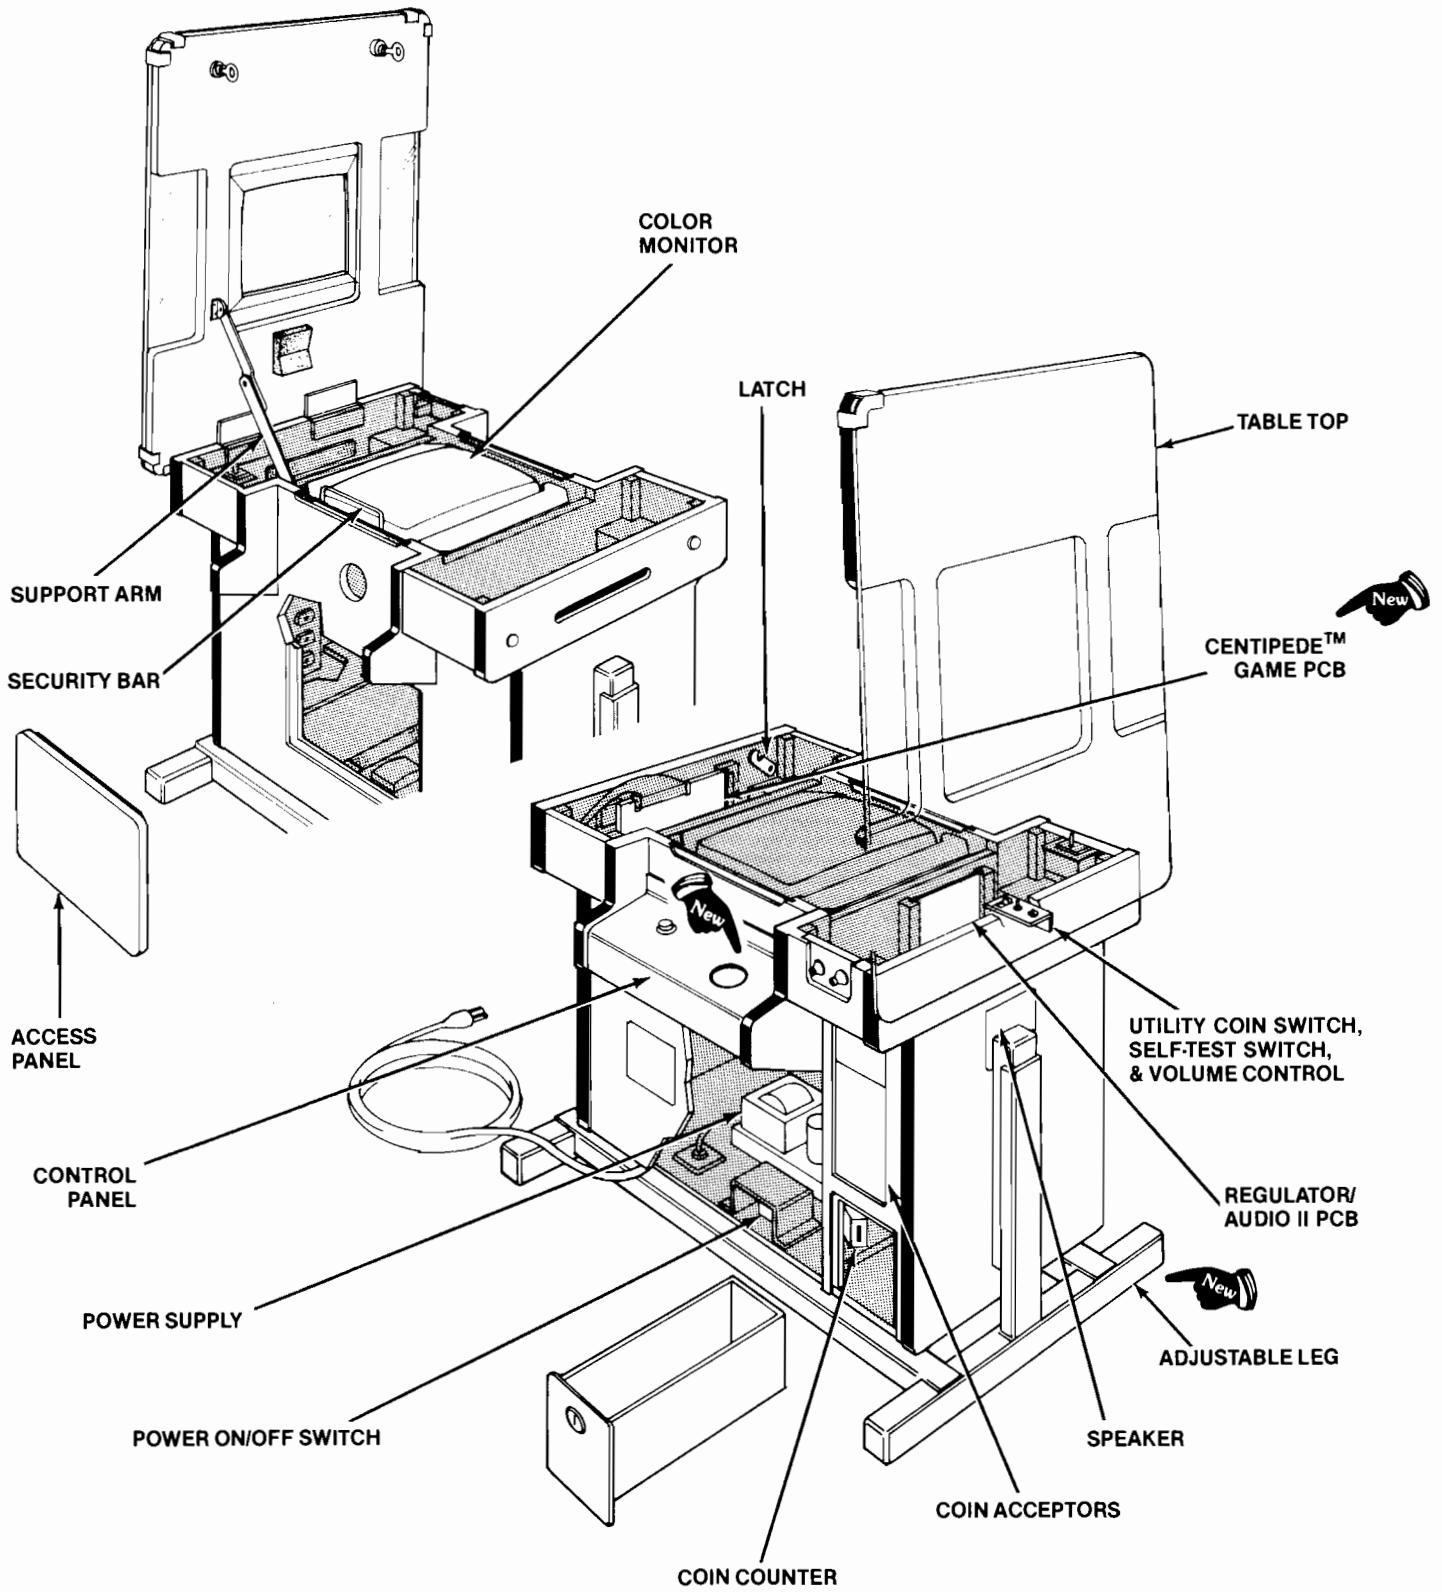

Figure 1 Overview of Game
These new parts, as well as all other major parts in the game, are illustrated in Figure 1. Throughout this manual, wherever one of these new parts is mentioned, you will see this symbol:
- To open the game cabinet, unlock and open the two locks at one end of the game, located immediately below the table top (see Figure 1).